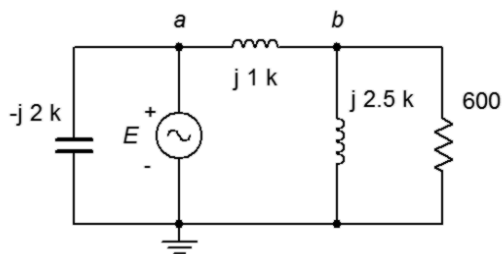

Figure 5.22
43. For the circuit of Figure 5.22, determine the Thévenin and Norton equivalents that drive the $600\ \Omega$ resistor if the source $E = 12\angle 0^\circ$.
44. Given the circuit of Figure 5.22, determine the Thévenin equivalent that drives the $j1\ \text{k}\Omega$ inductive reactance if $E = 9\angle 0^\circ$.
45. Given the circuit of Figure 5.22, determine the Norton equivalent that drives the $j2.5\ \text{k}\Omega$ inductive reactance if $E = 24\angle 45^\circ$.
46. Use Thévenin's Theorem to find v_b in the circuit of Figure 5.22 if $E = 18\angle 0^\circ$.
74. Consider the $600\ \Omega$ resistor to be the load in Figure 5.22. Determine a new value for the load in order to achieve maximum load power. Also determine the maximum load power.